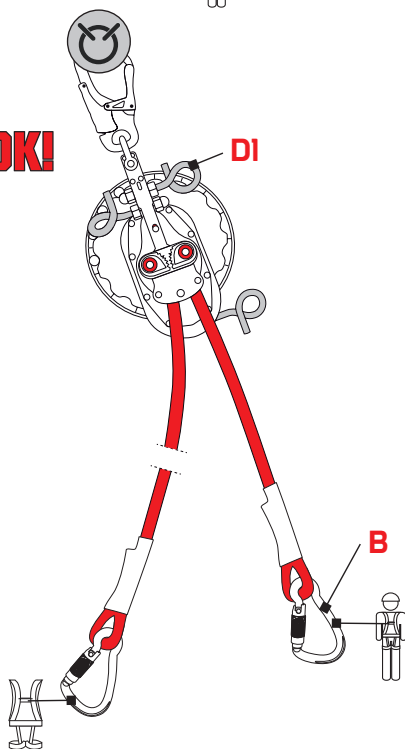

Fig.7
- d) connect the short end of the rope, using connector (B), to the harness of the person to be abseiled and tighten the rope (fig. 7) ensuring no slack is formed,